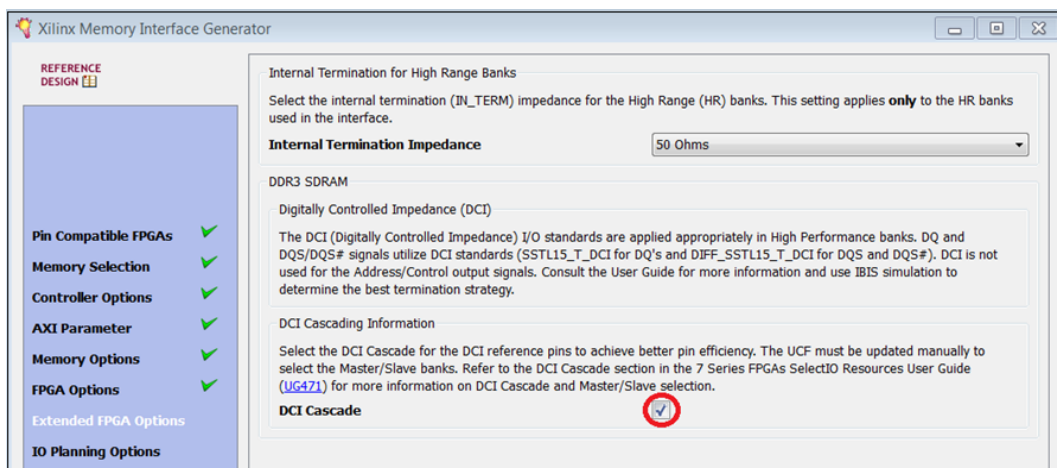

Figure 96: MIG Page: DCI Cascade
- l. In the MIG Internal Termination for High Range Banks page, select the **DCI Cascade** check box. Click **Next** (Figure 96).